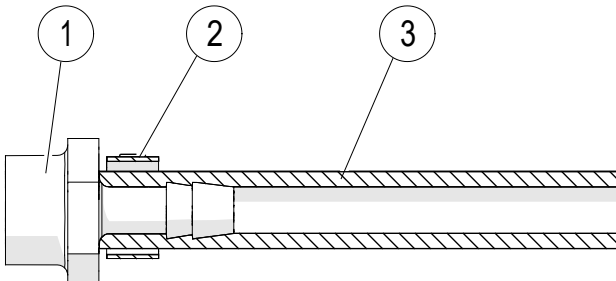

Fig. 14: Nozzle (1), hose clamp (2) and hose (3)
Arrange the components nozzle (1), hose clamp (2) and hose (3) as shown in Fig. 14: